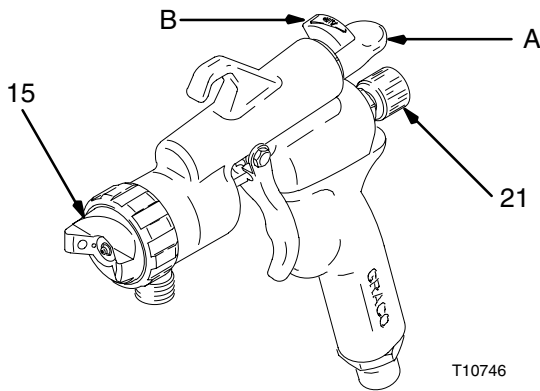

Fig. 6
The spray pattern and direction are determined by the pattern selection knob (A) fluid adjustment knob (21) and air cap (15) positions. See Fig. 6.
The air control (B) controls the TOTAL air to the pattern and gun. See Fig. 6.